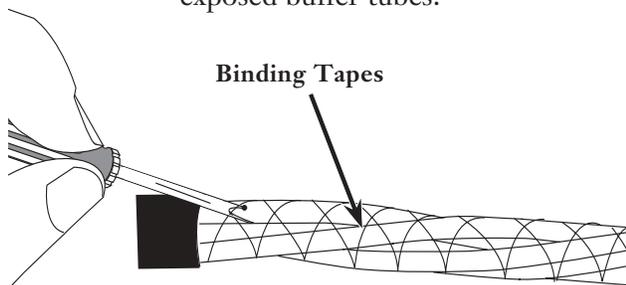

Figure 5
- Step 2** Use the sheath ripper from the tool kit to cut the two binding tapes around the buffer tubes. Cut the binding tapes where they overlap (Figure 5). Move down a few inches and repeat until the binding tape can be removed from around the exposed buffer tubes.